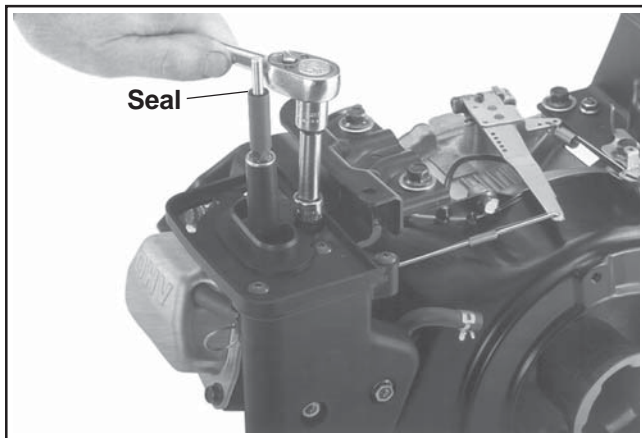
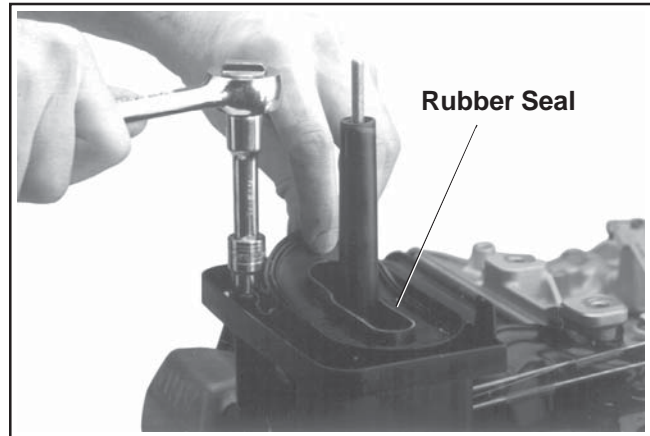

Figure 11-104. CS4, CS6. Installing Air Cleaner Base.
Figure 11-106. CS8.5 Air Cleaner Base and Rubber Seal. (Some Models).
1. Install the air cleaner base gasket onto the mounting studs. Attach the breather hose onto the air cleaner base connection port. Then install the air cleaner base onto the studs. Connect the opposite end of the breather hose to the valve cover. Secure the base with the two hex flange nuts on the mounting studs and the one or two hex flange screw(s) into the support bracket(s), depending on the model involved. See Figures 11-104, 11-105, and 11-106. On models using a separate rubber seal between the air filter element and base, install or make sure the rubber seal for the air cleaner is clean, installed, and in good condition. See Figure 11-106.
2. Make sure the seal is on the air cleaner base stud (fixed on some models). See Figures 11-104, 11-105, and 11-106. Install the filter element with precleaner and secure with the wing nut. **Do not** install the outer air cleaner cover and knob at this time.